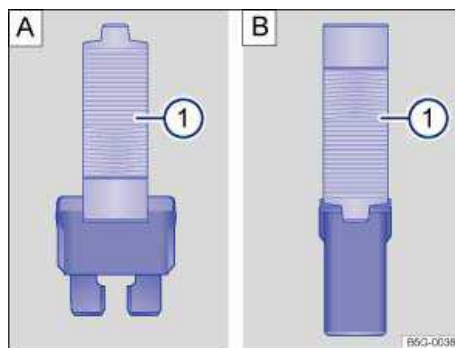

Fig. 181 Removing or installing a blade fuse with the plastic tweezers: A: Blade fuse. B: JCASE® fuse.
- Depending on the type of fuse, slide the tweezers ⇒ fig. 181 A \(1\) or ⇒ fig. 181 B \(1\) onto the fuse from the side.